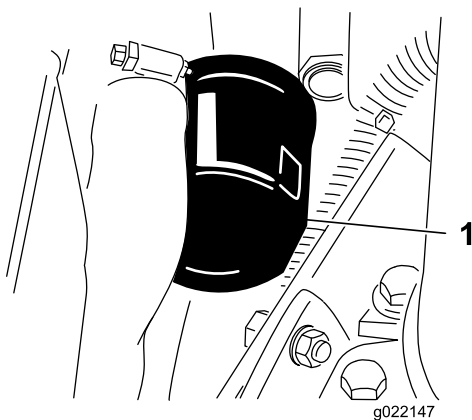

Figure 52
3. Remove the oil filter (Figure 52).